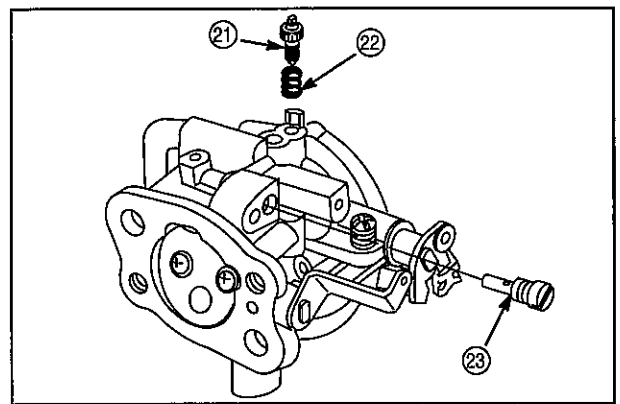

Fig. 55
- 14. Install pilot jet (23), **Fig. 55**.
- 15. Install idle mixture screw (21) and spring (22).